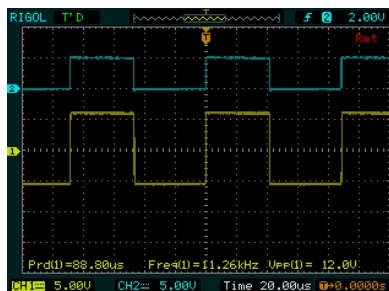

**Figure 11. Function Generator**
6. The typical waveform you should observe on the oscilloscope is shown in Figure 11.
7. Verify the peak to peak voltage of the triangle wave (CH1) is ~20Vpp and the peak to peak voltage of the square wave (CH2) is ~5Vpp as shown in Figure 11. Note: The triangle waveform (CH1) should be clipped at this point.